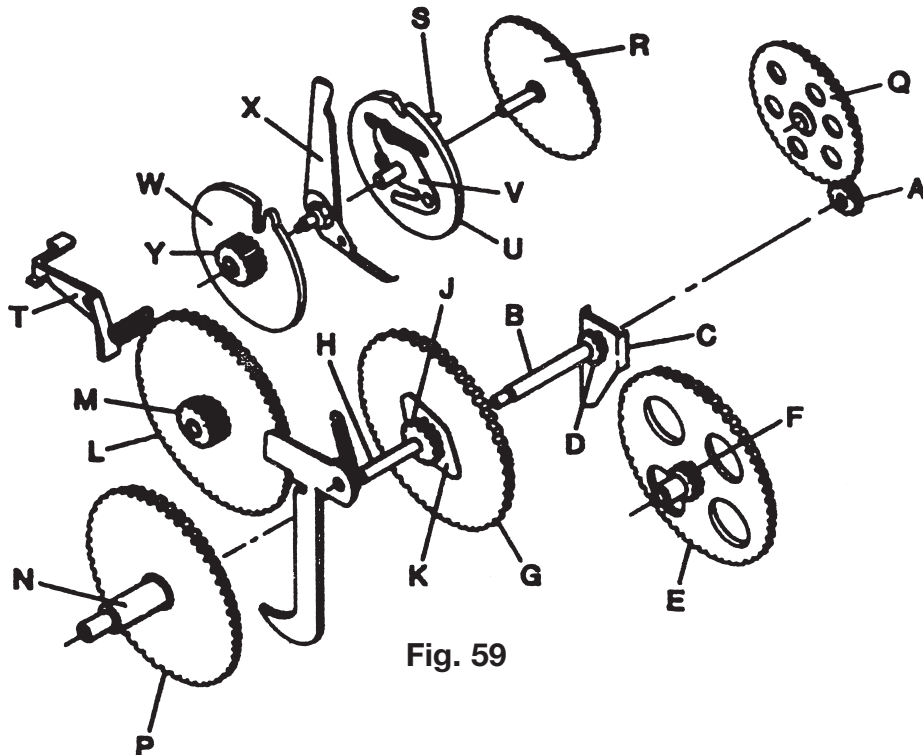

Fig. 59
Normal Drive (Fig. 59)
See Fig. 59
4. The corrective lever then begins to move upward. After 6 seconds it lifts the pawl throw-out lever and thereby releases pick-up pawl S (Fig. 59).
1. With power "ON" manually initiate an hourly correction cycle. Immediately remove power when throwout lever T causes pick-up pawl S to disengage ratchet R (Fig. 59); a slight "click" can be heard.
1. With power "ON", lift the throwout lever (T-Fig. 59) so that it latches in a raised position.